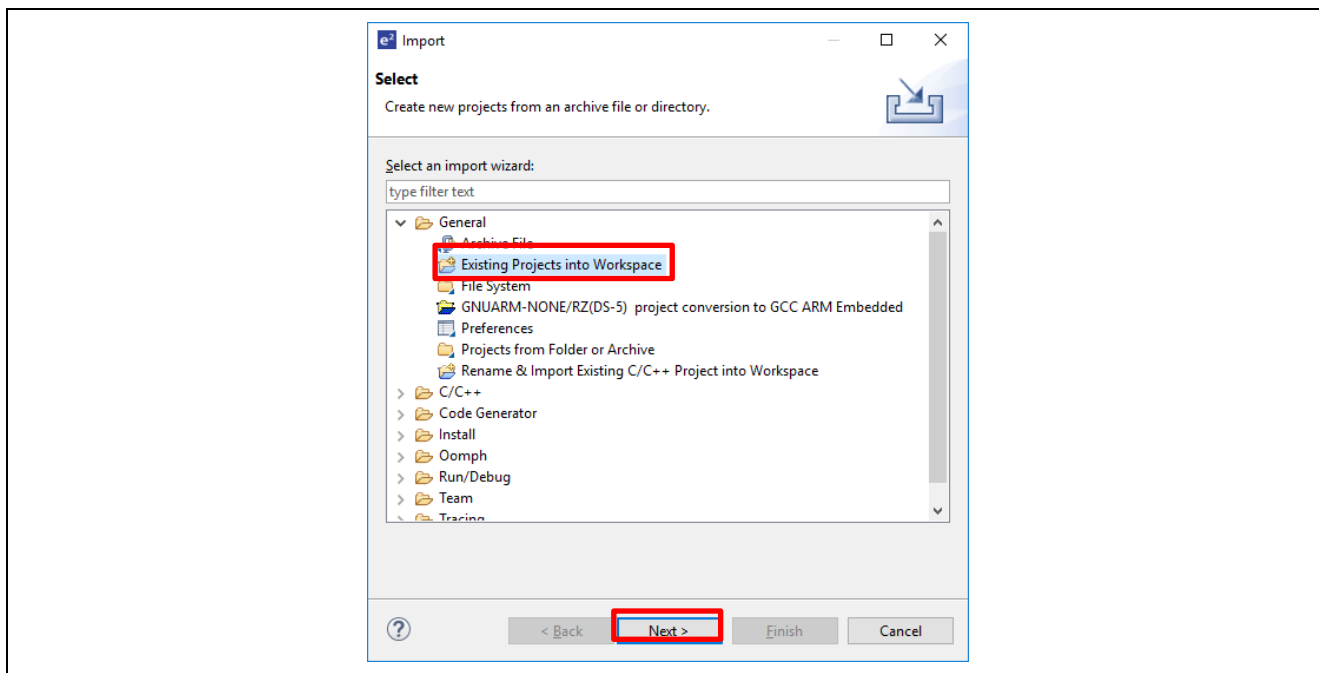

Figure 3-4 Menu of 'Import' window
- Under 'Import' window, select General > Existing Projects into Workspace and click 'Next'. This is shown in Figure 3-4.